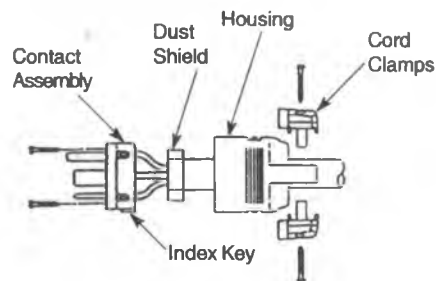

Fig.1
- Slide housing onto cord. See fig. 1.